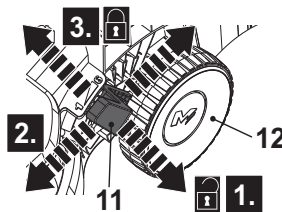

Fig. 11
1. Pull the lever (11) towards the rear wheel (12) (Fig. 11, step 1).
2. Move forward or backward to adjust the cutting height (Fig. 11, step 2).
3. Release the lever (11) and ensure it engaged in the slot properly (Fig. 11, step 3).